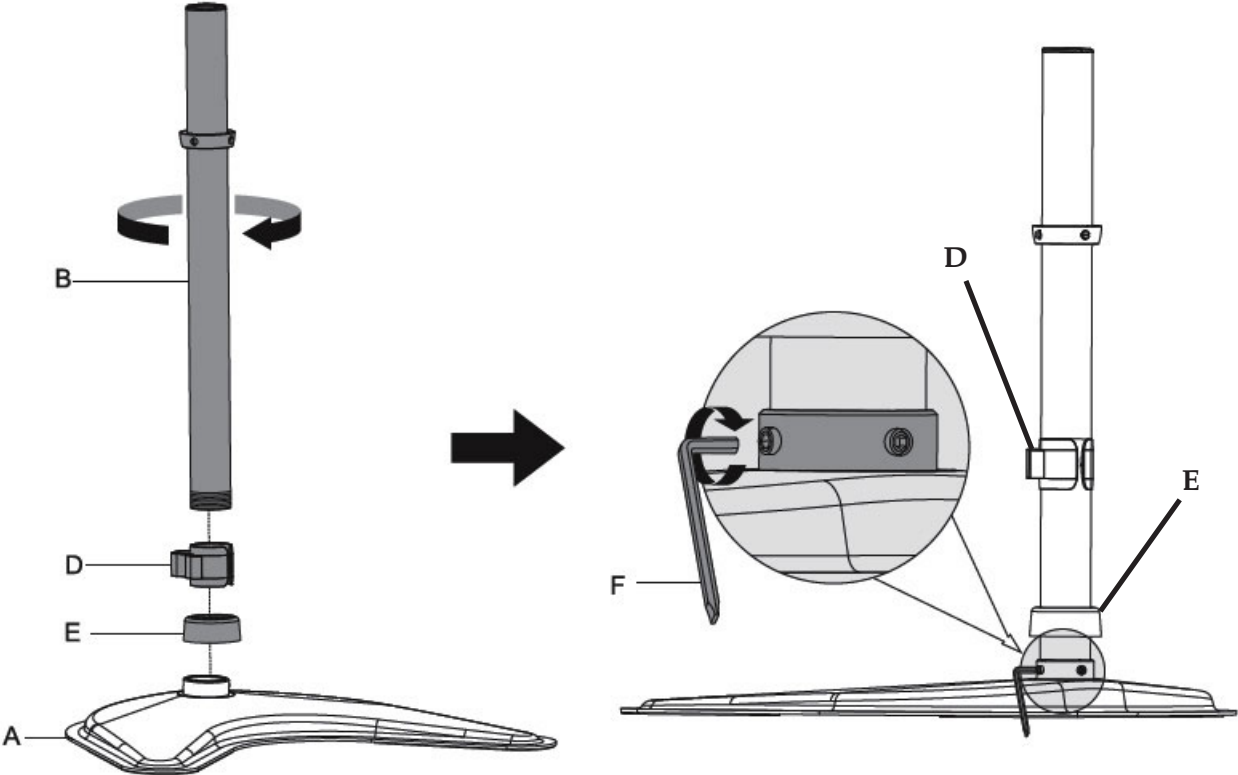

Figure 1
Slide the Cable Management Clip (D) and Plastic Cover (E) onto the tube support, then mount the Tube Support (B) to the Weighted Base (A) by turning it clockwise until hand tight. Next, use the 3mm Allen Key (F) to tighten the set screws to secure the tube support, see Figure 1. Continue to Step 2.